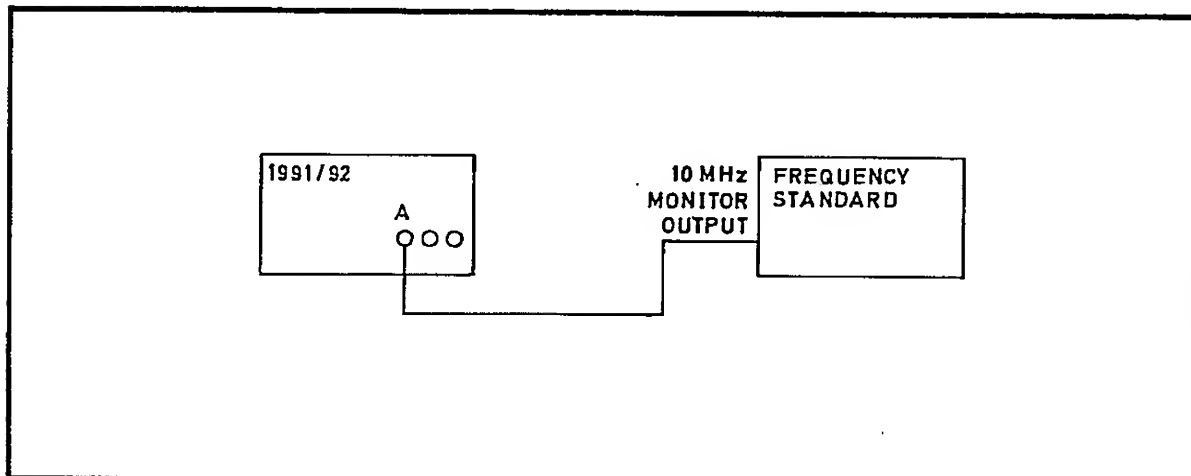

Fig 7.26 Connections for Internal Frequency Standard Adjustment
- 64 (1) Switch on the 1991/92. Select FREQ A and verify that 00000000 is displayed. If the Option 04B (9423) frequency standard is fitted, press the RESOLUTION \uparrow key until 000000000 is displayed.
- (2) Connect the test equipment as shown in Fig 7.26.